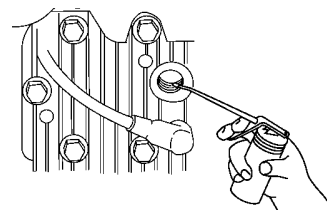

Figure 26
3. Using an oil can, squirt about one tablespoon of oil through spark plug hole (Fig. 26).